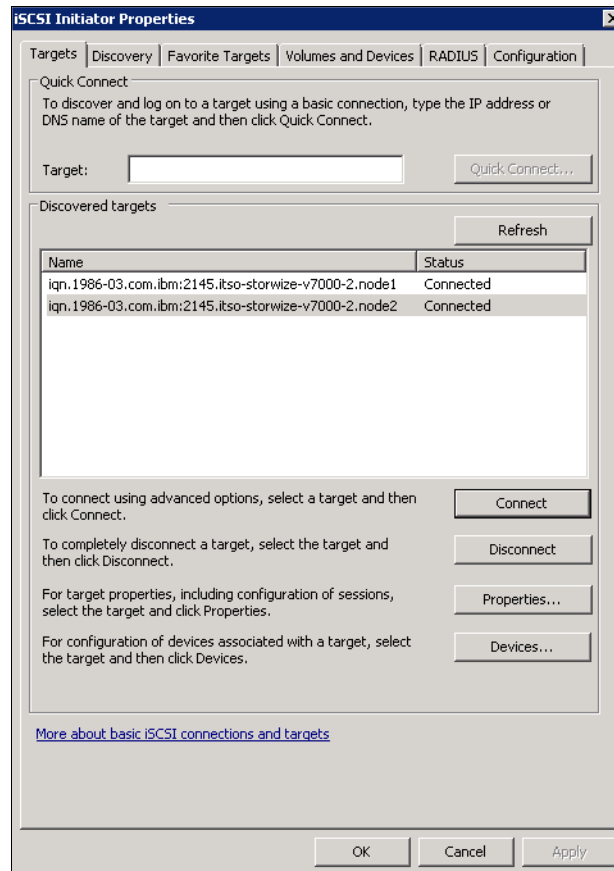

Figure 5-41 Second target port connected
8. Select the **Enable Multipath** check box and click **OK**. The status of the second port now indicates Connected (Figure 5-41).